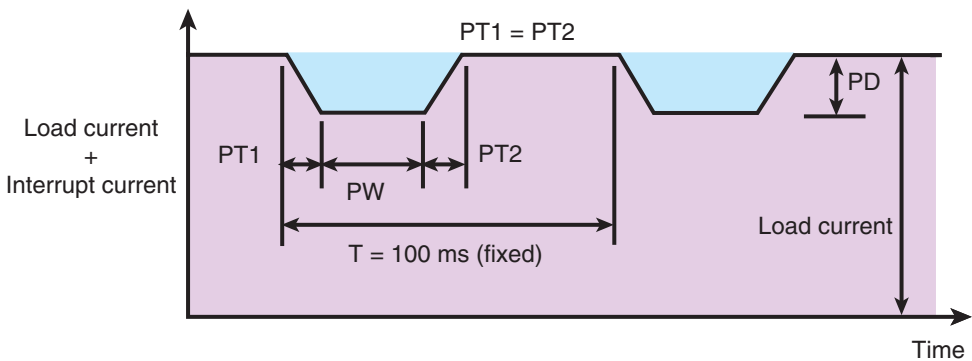

Fig. 2-12 Interrupt current pulse
Fig. 2-12 shows a conceptual diagram of the pulse width (PW), depth (PD), and transition time (PT) of the interrupt current that changes as a pulse. The repetition period of the pulse (T) is fixed to 100 ms.